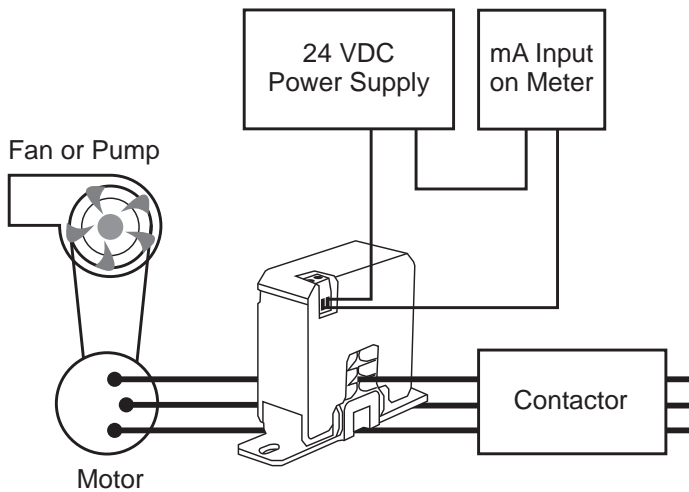

Figure 1: Measuring Current Using PDA6420 Current Transducer
5. Reconnect the power conductor cable. See Figure 1 for a wiring example.